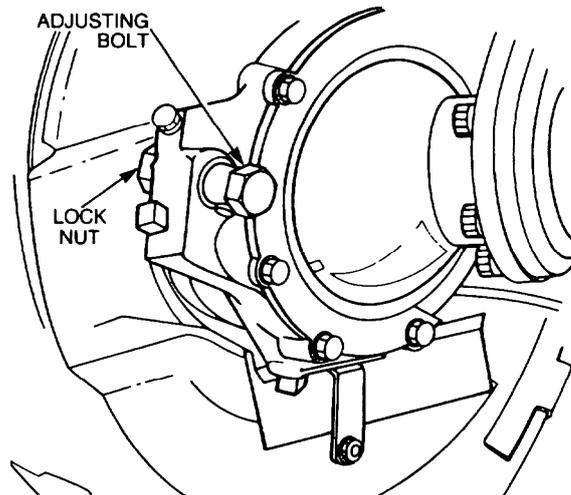

Figure 168 Steering Lock Stop Adjustment
- b. Turn the bolt clockwise or anticlockwise to obtain the correct clearance (Figure 168).